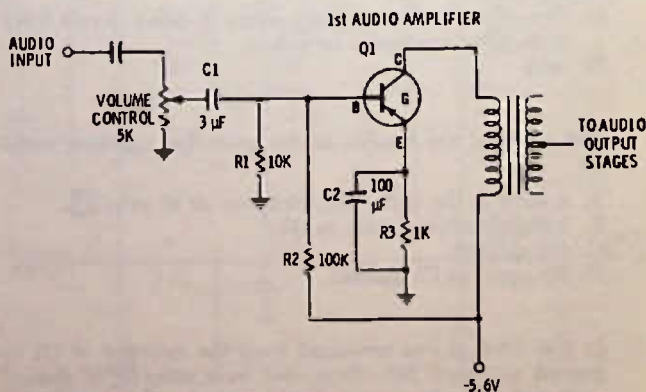

Fig. 15-13. Circuit for Questions 20 through 23.
- 20. Fig. 15-13 is an audio amplifier circuit. The problem is distortion, which has been localized to this stage by a signal tracer—that is, the signal sounds all right at the volume control but is distorted at the collector of Q1. You measure the voltages on the transistor and find that the collector is about 5.5 volts negative. The base voltage to ground measures about 0.15 volt and the emitter voltage about 0.2 volt. What part would you suspect first?
- 21. In a radio with a circuit similar to Fig. 15-13, the audio output is weak but the radio still seems to receive a number of stations. The signal tracer is used and there seems to be plenty of audio at the base of Q1. There is also about the same amount of audio at the emitter, but the audio output at the collector does not seem to be too much greater than at the base of the transistor. The trouble is almost sure to be
22. In Fig. 15-13, the emitter voltage that would normally be shown on the schematic is 1.5 volts, but the radio is distorted and you find the voltage on the emitter is about 3.5 volts. A trouble you might suspect would be
23. In Fig. 15-13, if you were installing new electrolytics for C1 and C2, you would connect them in the circuit with